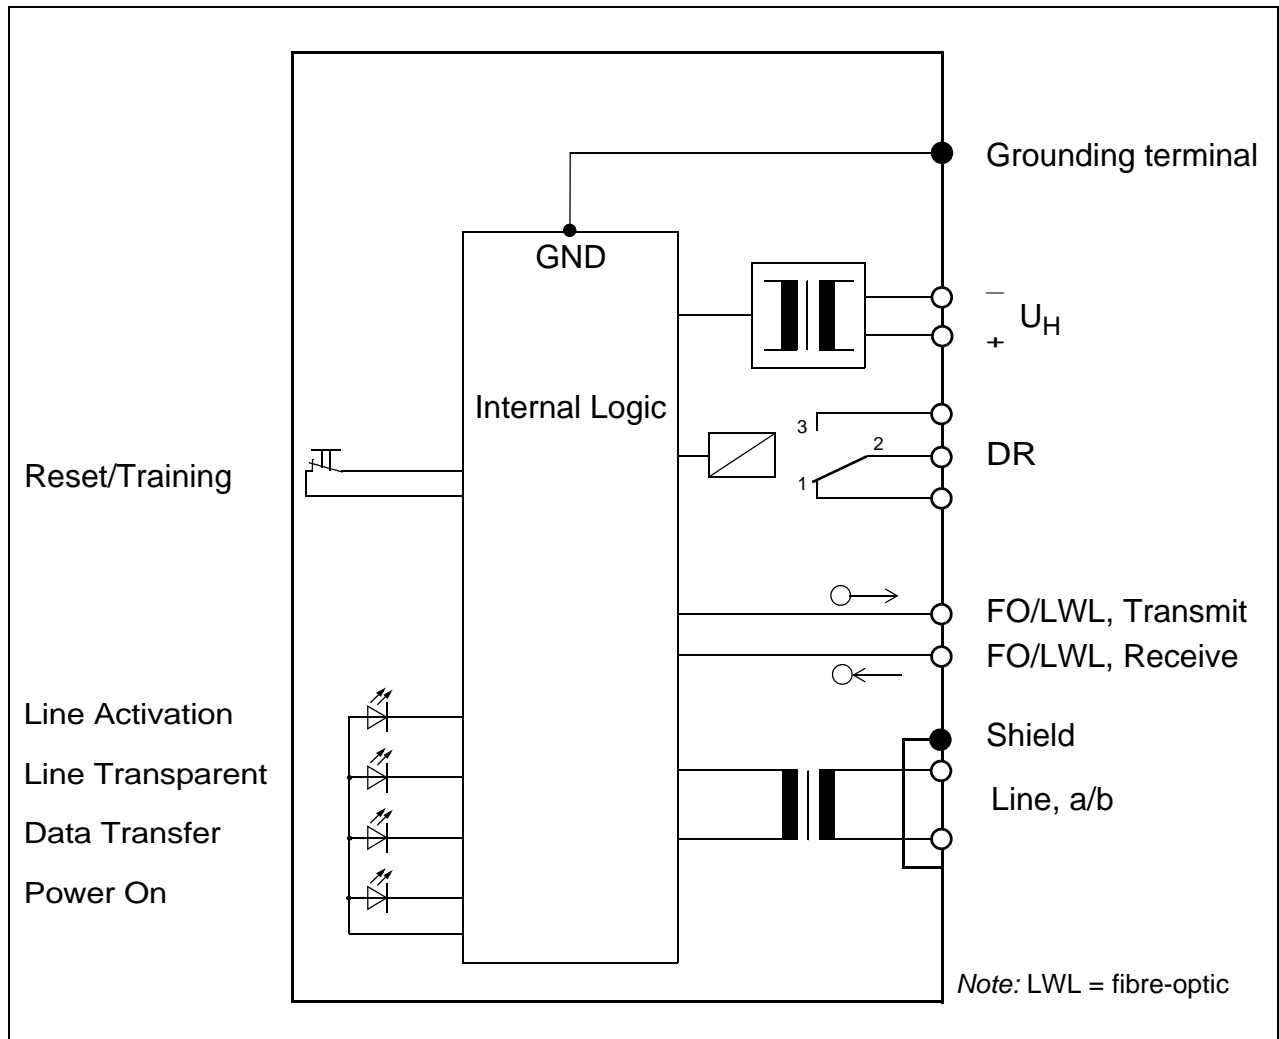

Figure 11 Hardware structure of the CC-CO
The function of the CC-CO is to allow bidirectional data communication between two protection devices via a single wire pair with a maximal transmission rate of 38.4 kBd (standard) and to adapt the existing fibre optic data protection interface in the protection device to the physical specification of one copper wire pair. The copper wire pair may be part of a telecommunications cable, or of any other suitable symmetrical communications cable. The adaptation is done completely bit-transparent, i.e. the information is transferred directly without adding or filtering out information. Fig. 11 illustrates the schematic diagram. The line connection has an isolation resistance of 5 kV. By connecting an isolating transformer it can be increased to 20 kV (see Accessories page 56).
- ❑ **Line:** The pilot wire pair (please use Shielded Twisted Pair) must be applied to the 2-pole screw-type terminal (Line) (one wire pair). The shield connection situated to the right has to be connected to the shield of the pilot wire. The Line signals are galvanically isolated from the other electrical circuits (Fig. 11) and communicates with the opposite protection device.
- ❑ **GOK (DR):** A floating CO contact is available as a “device ready” interface whose three connections are routed to the device panel. The connection symbol represents the rest position of the contact (no voltage). The DR Signal is enabled (the relay is closed) when the following conditions are fulfilled: